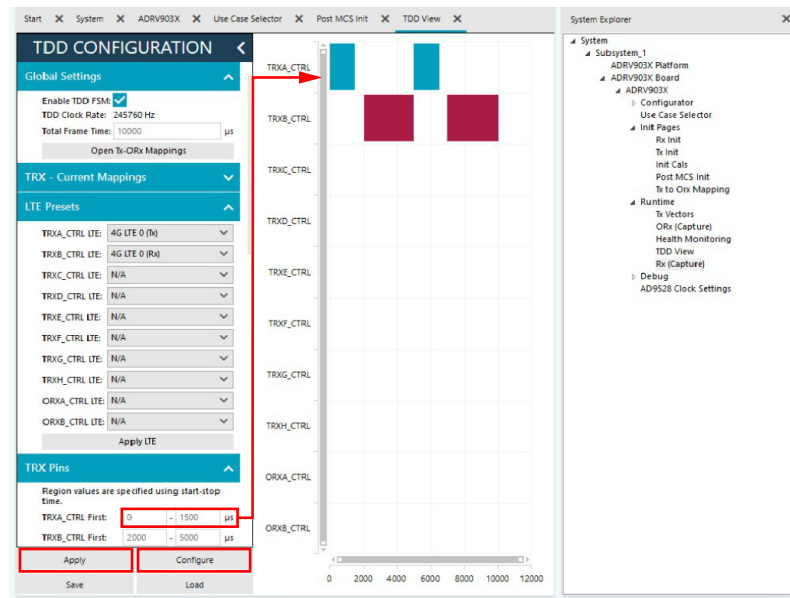

Figure 50. TDD Configuration Page Used to Specify the Enable Timing for Each TRXx_CTRL Pin and Configure the TDD State Machine
1. Enter start and stop times to specify a time range for driving each TRXx_CTRL pin. Four start and stop time ranges can be specified per pin. LTE presets can also be applied to each TRXx_CTRL pin from under **LTE Presets**. Figure 50 applies **4G LTE 0 (Tx)** preset to **TRXA_CTRL LTE** and **4G LTE 0 (Rx)** preset to **TRXB_CTRL LTE**.